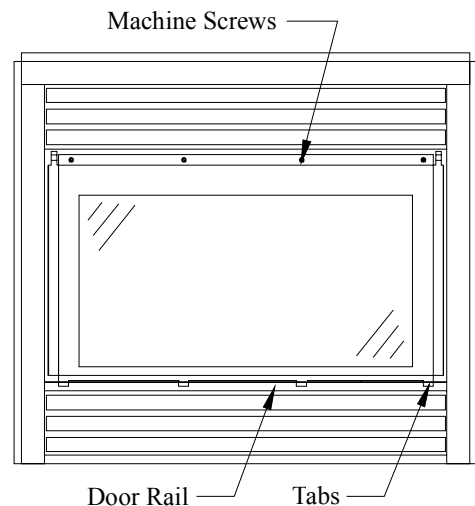

Figure 14. Installing Glass Door.
To install/remove the glass door simply attach/remove the four (4) machine screws, align tabs at the bottom of the door with the slots in the bottom door rail (See figure 14). Ensure that a good seal is maintained.